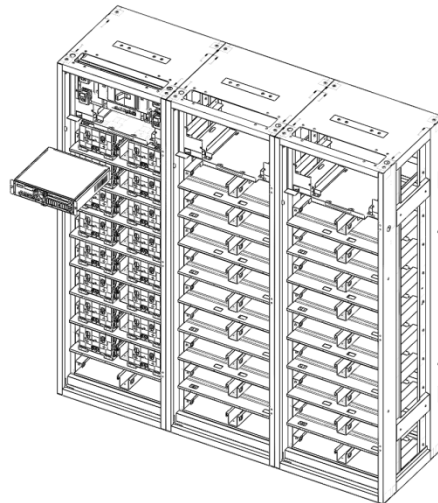

Figure 3-13: Inserting SMPS Assembly
4. Insert SMPS Assembly into the rack frames designated for SMPS Assembly as shown in Figure 3-13: Inserting SMPS Assembly